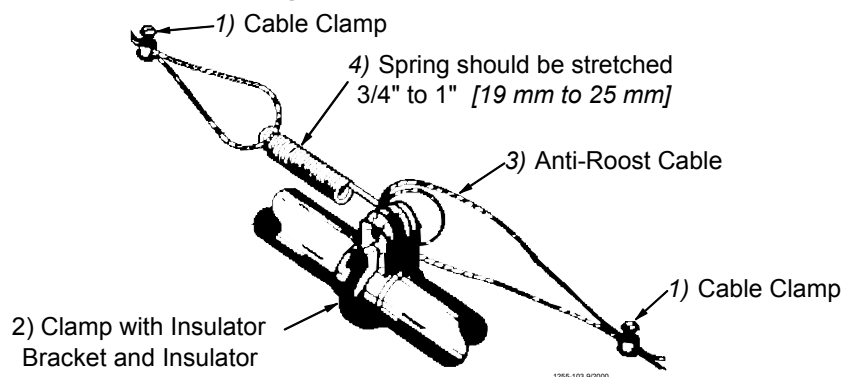

Figure 82. Anti-Roost Cable Mid-Line Connection
4. Attach a spring in the center groove at the second anti-roost bracket and cut the cable at this point. See **Figure 82**.
5. Thread the ends of the cable through the end of the spring. Pull the cable tight so that there is 3/4" to 1" [20 to 25 mm] of stretch in the spring. Clamp the cable to form a loop and cut off any excess. See **Figure 82**.
6. Attach the cable to the insulator. For best results, make a double loop around the anti-roost insulator in the center groove of the insulator and fasten with a 1/16" cable clamp as shown in **Figure 82**.